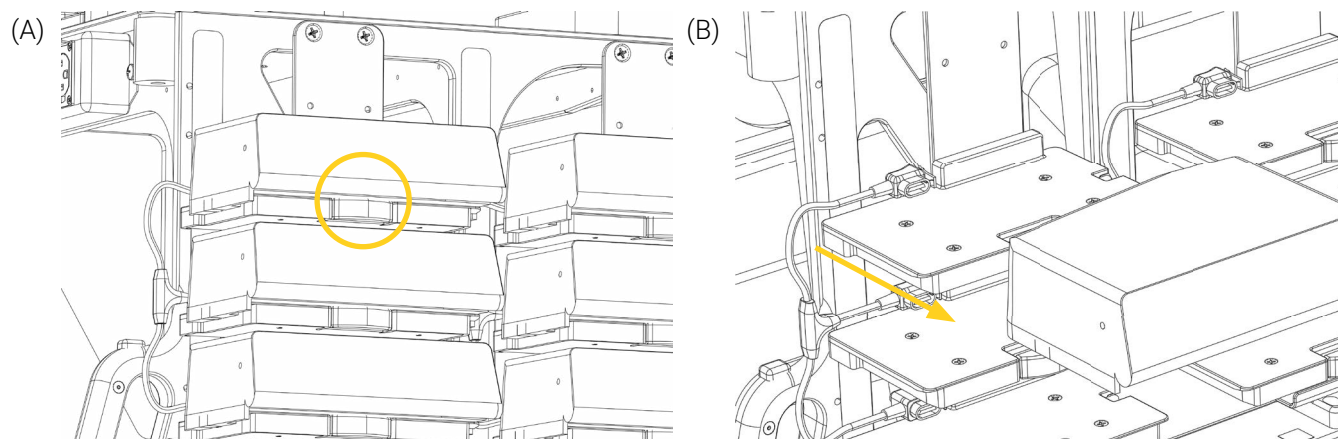

Figure 20: Removing the infusion pump
1. Holding both sides of the pump, use your thumb to press and hold the quick release button located at the front of the bracket to disengage the pump (Figure 20 A).
2. Pull and slide the pump outwards to remove it from the pump bracket (Figure 20 B). Set the pumps aside.